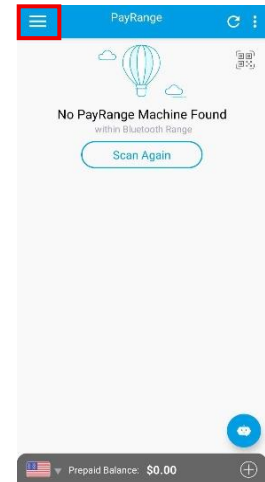

Figure 4
- Once logged in, if you are not near any active devices the home screen will look like **Figure 4**.
- Tap the **menu icon (☰)** in the top-left corner. (see the **red box** in **Figure 4**).